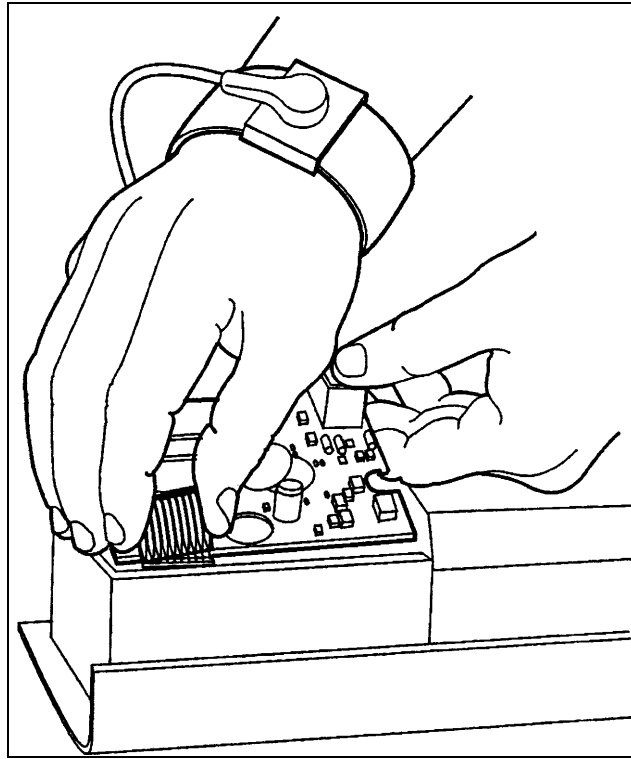

FIGURE 3: LEFT MODULE REMOVAL
- Cut the warranty labels and remove the 3 left module mounting screws. Remove the left module cover. Carefully lift the CPU/graphic display module. Lay to the side on the static mat (refer to figure 3).